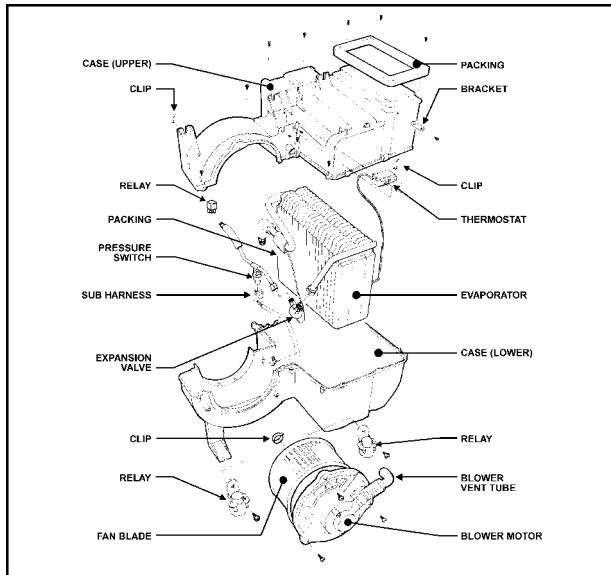

Figure 87: Blower/Cooling Unit (disassembled)
- 1) Remove and disassemble blower/cooling unit. (Fig. 87)